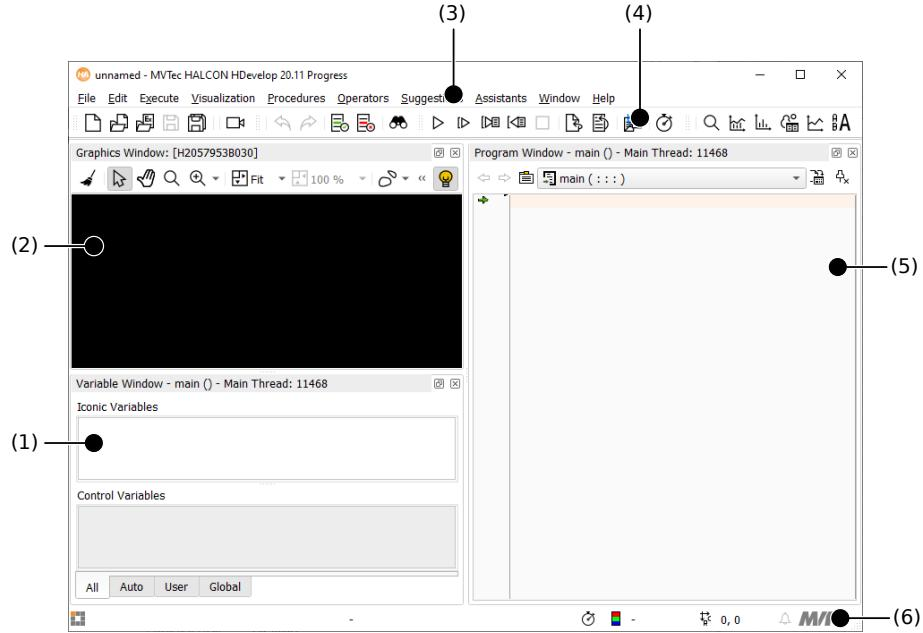

Figure 2.2: User interface: (1) variable window, (2) graphics window, (3) menu, (4) tool bar, (5) program window, (6) status bar.
When HDevelop is started for the first time it looks similar to figure 2.2. The main window offers a menu (3) and a tool bar (4) for quick access to frequently used functions. The status bar (6) at the bottom of the window displays messages and image properties. In addition, the following windows are available by default:
(1) Variable window